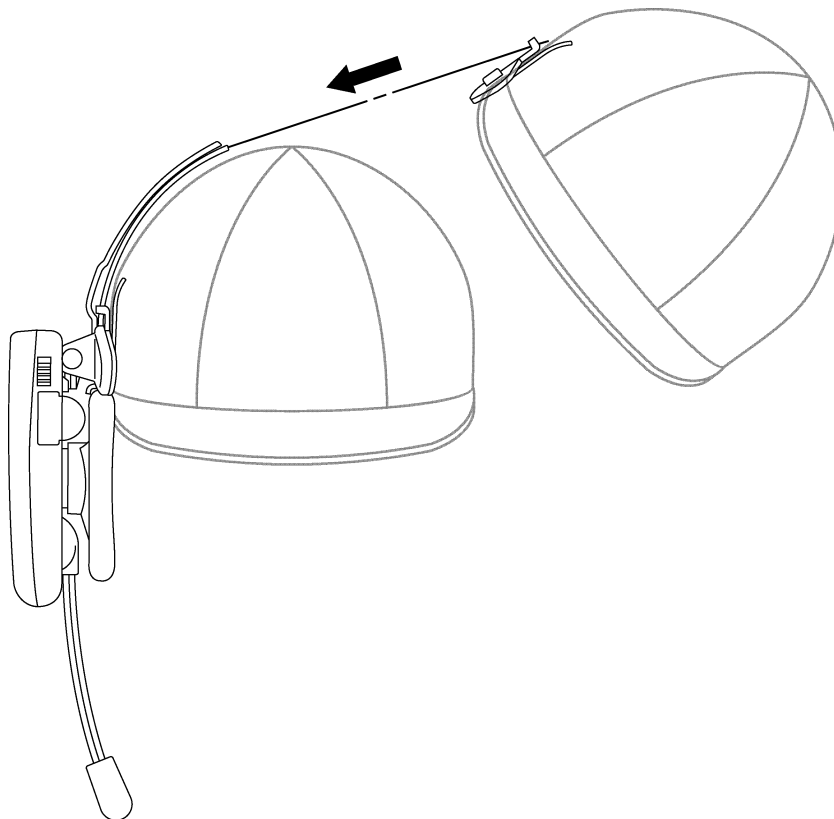

Figure 12.
- Slide the cap clip over the inside half of the adjustable headband until it snaps into position over the headband pad mount. See Figure 12.